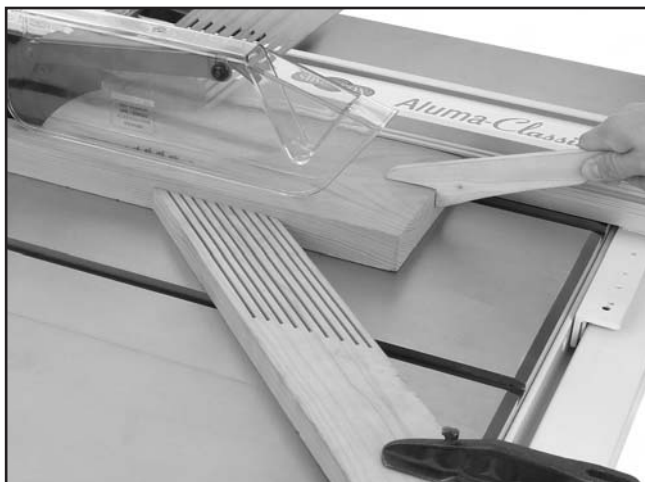

Figure 42. Ripping operation.
10. Using a push stick, feed the workpiece through the saw blade, as shown in **Figure 42**, until the workpiece is completely past the saw blade.